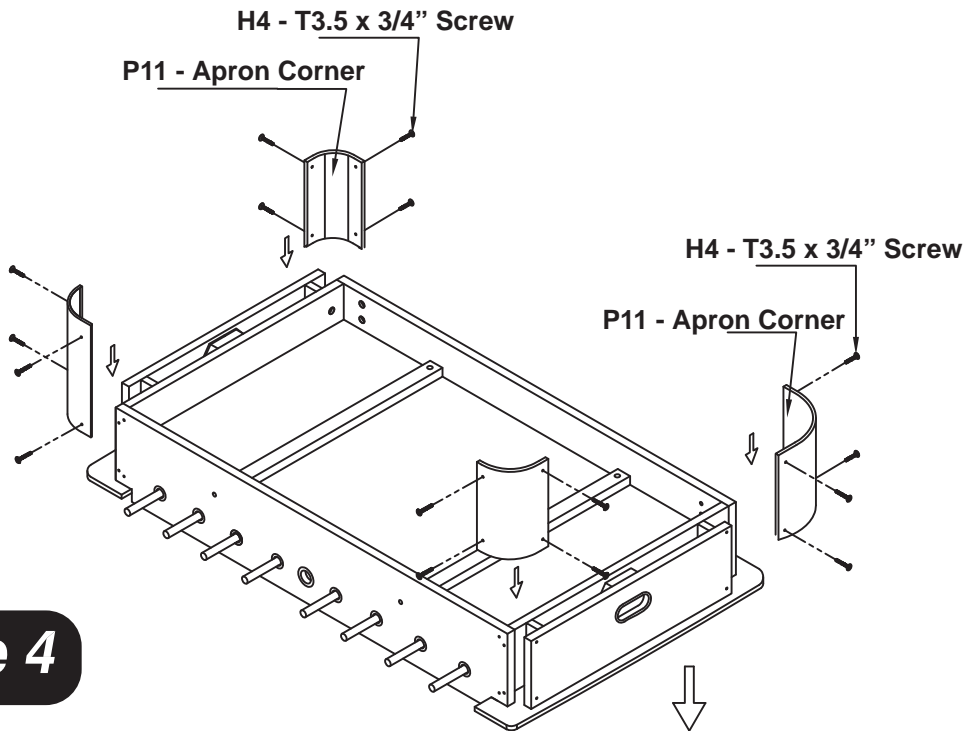

Figure 4
9. Attach apron corner **P11** to the cabinet using washer Head screw **H4** as shown in **FIGURE 4**.